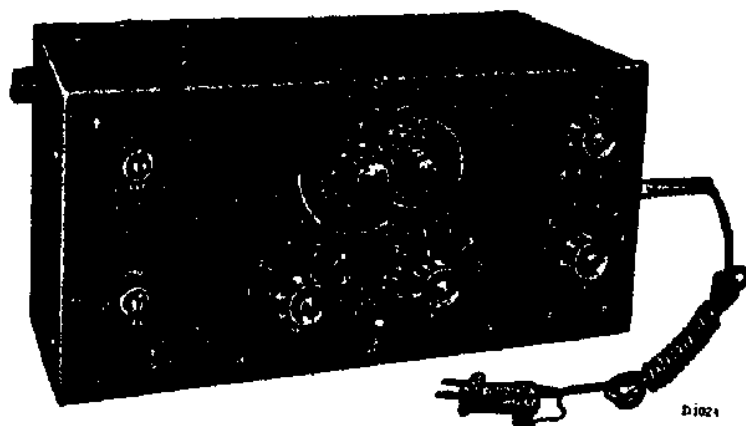

Fig. 3
1. Een Service-oscillator, (4028C of G.M. 2880 fig. 3.).